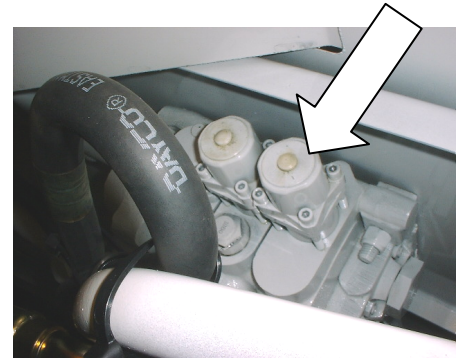

Fig 4
- ❑ 1-Remove the small, rubbery hole plug from the end of the K-O positioner's bonnet (at the end face of it)...the "adjuster" is behind it <FIG. 4> [Sec 02-pg 03]